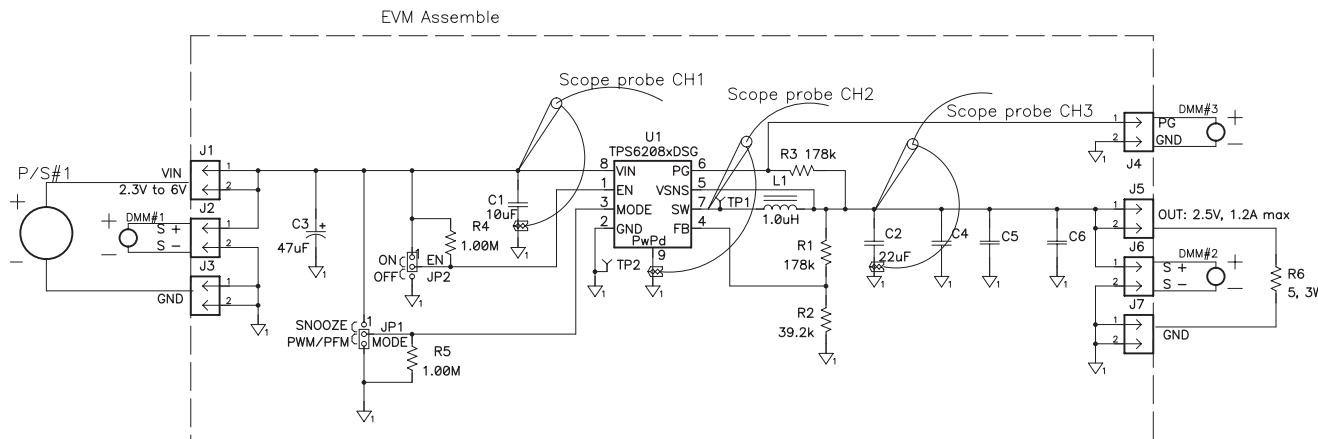

Figure 1. EVM Schematic and Evaluation Setup
1. Ensure that the EVM is set up according to Table 1 and Figure 1, and that the power supply is preset to 4 Vdc at ~550-mA current limit.